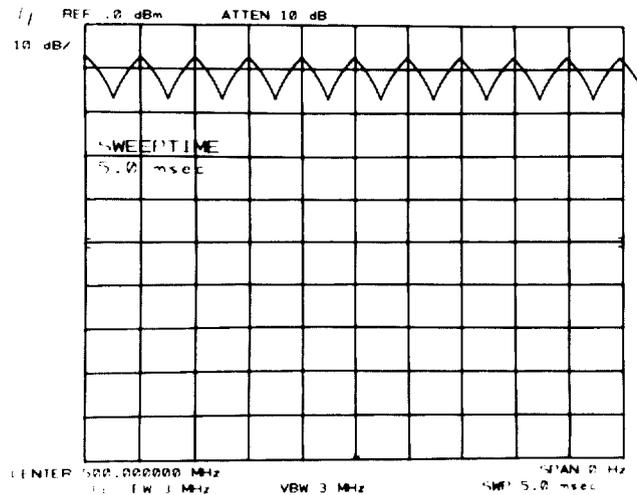

FIGURE 36. FAST SWEEP TIME MEASUREMENT (<20 MSEC)
10. Adjust spectrum analyzer TRIGGER LEVEL to place a peak of the triangular waveform on the first graticule from the left edge of the CRT display as a reference. (Adjust function generator amplitude, if necessary, to provide a signal large enough to produce a stable display.) The fifth peak from the reference should be within ± 0.5 division of the sixth graticule from the left edge of the display (see Figure 36).